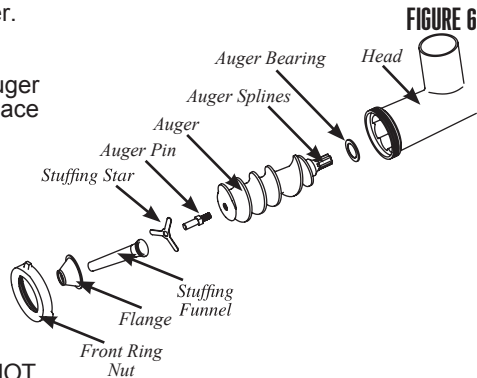

FIGURE 6
3. Insert the Auger, with the Auger Bearing attached, into the Head (FIGURE 6). Align the Auger Splines with the Drive Shaft of the Grinder.